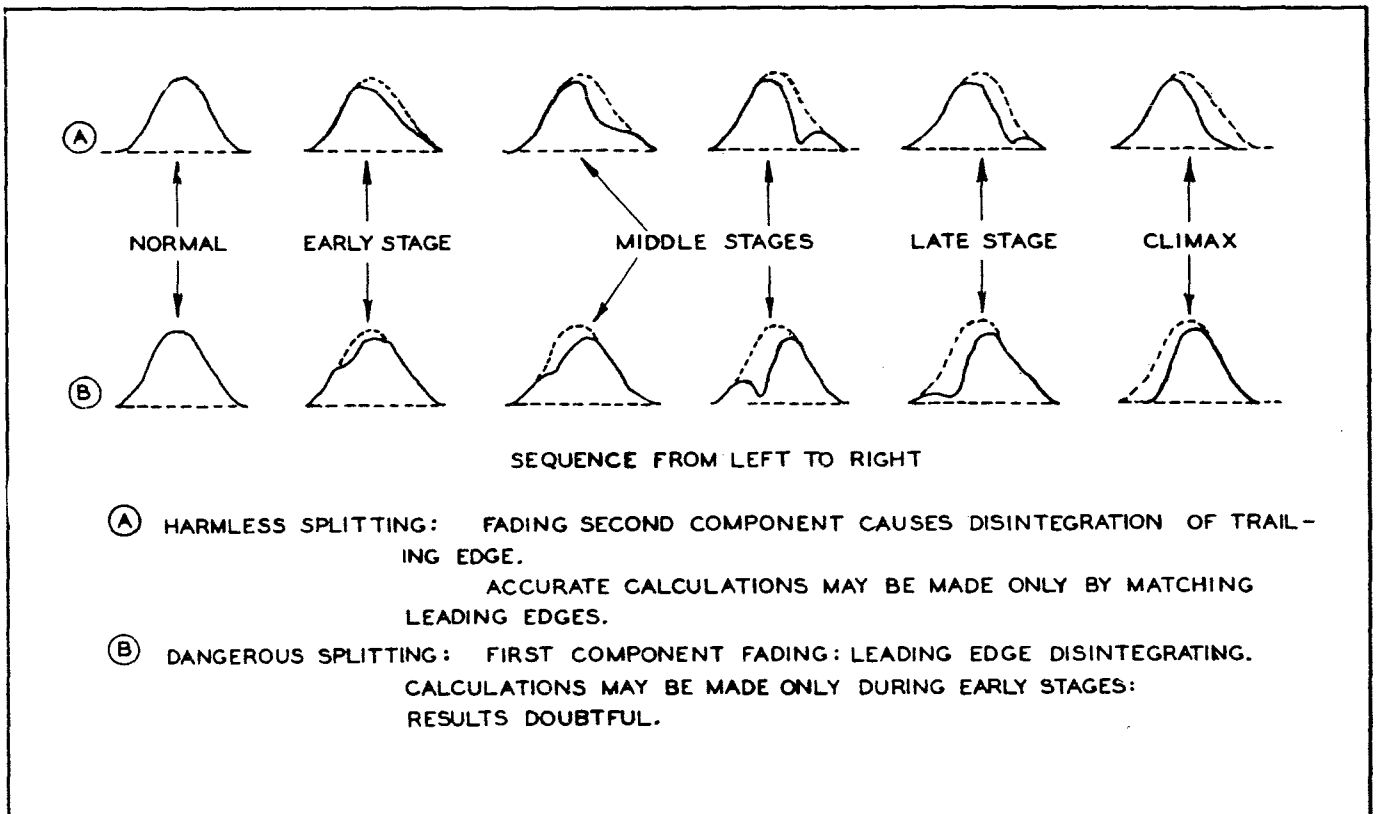

Figure 3-21. Oscilloscope Wave Forms Showing Sky-Wave Effects
d. The effects of ground waves and sky waves on reception are as follows: The received pulses are typical forms of ground (direct) waves. However, over long distances, especially at night, the received pulses are sky (reflected) waves. (See fig. 3-21.) A ground-wave pulse does not change in form and is always the first stationary pulse to the left within a daytime range of approximately 600 miles, or a night time range of approximately 400 miles. The ground-wave pulse varies inversely with the distance in amplitude only. The sky-wave pulse, however, varies in both amplitude and form as the distance from the aircraft to the stations changes.
Figure 3-21 shows various forms of sky-wave pulses. Part A, figure 3-21, shows a train of changing pulse forms described as harmless splitting pulses, resulting from deterioration of only the trailing edge of the received pulse. By watching the pulses long enough to be sure that the leading edge of the A-pulse is matched with the leading edge of the B-pulse and by allowing for the additional travel time of the reflected wave, sufficiently accurate readings may be taken from skywave pulses.
Part B, figure 3-21, shows a series of pulse forms, described as dangerous splitting pulses, resulting from deterioration of the leading edge of the received pulse. Matching of such pulses is possible only during the early